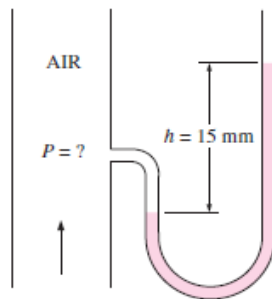

Figure 3
3. A mercury manometer ($\rho = 13,600 \text{ kg/m}^3$) is connected to an air duct to measure the pressure inside. The difference in the manometer levels is 15 mm, and the atmospheric pressure is 100 kPa. (a) Judging from Fig. 3, determine if the pressure in the duct is above or below the atmospheric pressure. (b) Determine the absolute pressure in the duct.